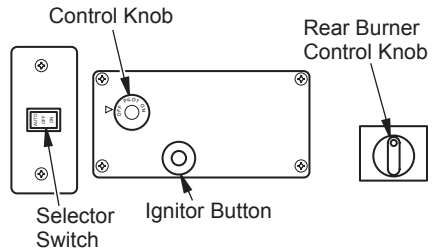

Figure 30 - Control Knobs and Ignitor Button Locations (Shown as Supplied, No Remote Control Operation)
- Wait five (5) minutes to clear out any gas. Then smell for gas, including near the floor. If you smell gas, STOP! Follow "B" in the safety information on page 22. If you don't smell gas, go to the next step.
- Press in and turn control knob counterclockwise  to the PILOT position. Press in control knob for five (5) seconds (see Figure 30).